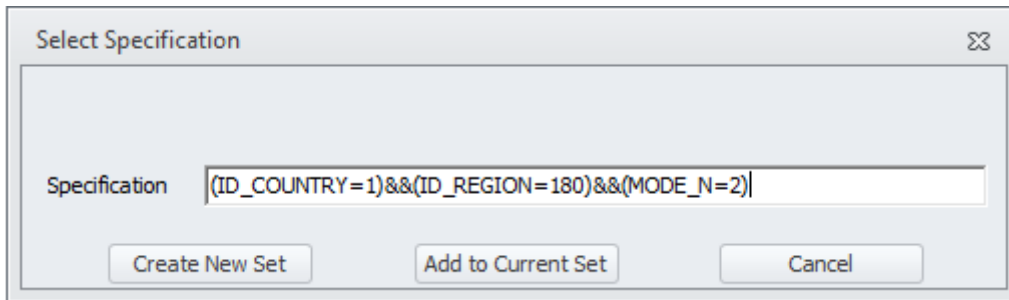

Figure 57 Select/view elements via SQL
- Select/view elements via SQL queries based on the attributes in the layers: On the menu bar, select Datasets -> Select by Attributes... and type an SQL syntax, for example all railway nodes in the Stockholm region, in a node layer, see Figure 57.